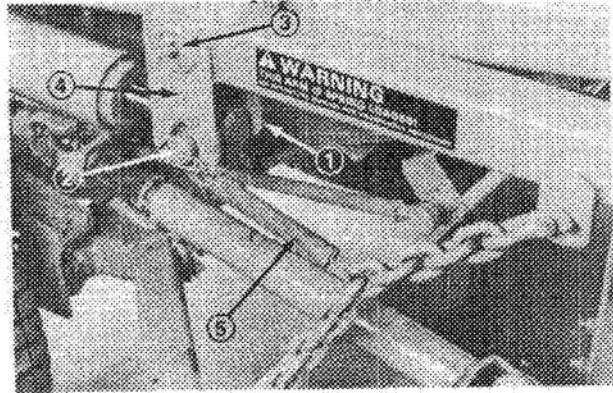

Figure 78
5. Remove spring pin from cylinder pin, and pull cylinder pin out of moveable end of the cylinder (Fig. 78).
6. Remove cotter pin from lift arm pivot shaft (Fig. 78).